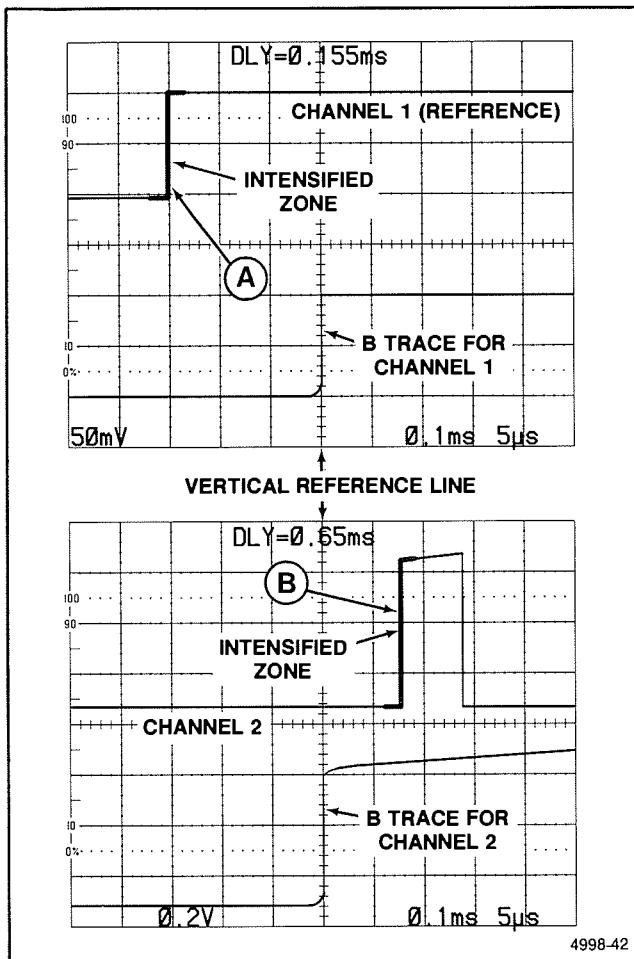

Figure 6-29. Time difference between two time-related pulses, differential time method.
7. Rotate the B DELAY TIME POSITION control to move the intensified zone to the rising edge of the reference pulse (on the A trace); then fine adjust until the rising portion (on the B trace) is centered at any convenient vertical graticule line (see Figure 6-29, Point A).
10. Rotate the B DELAY TIME POSITION control to set the rising portion of the Channel 2 pulse (on the B trace) to the same vertical reference point as used in step 7 (see Figure 6-29, Point B). Observe the A trace to position the intensified zone to the correct pulse (if more than one pulse is displayed). Do not change the setting of the Horizontal POSITION control.